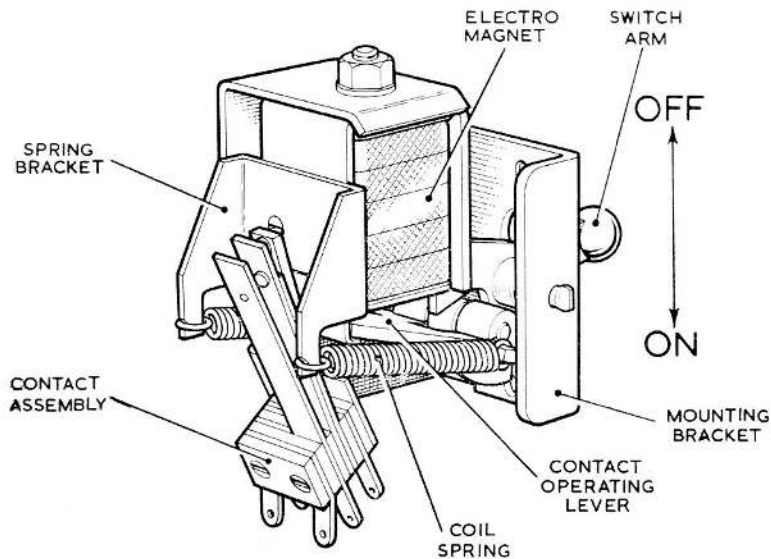

Fig. 1. General view of switch
2. A general view of the switch is given in fig. 1. The switch has a single pole spring leaf contact assembly which is open circuited when the switch arm is in the OFF position. The switch arm is pivoted in the mounting bracket and a slot in its inner end engages with a contact operating lever. The contact